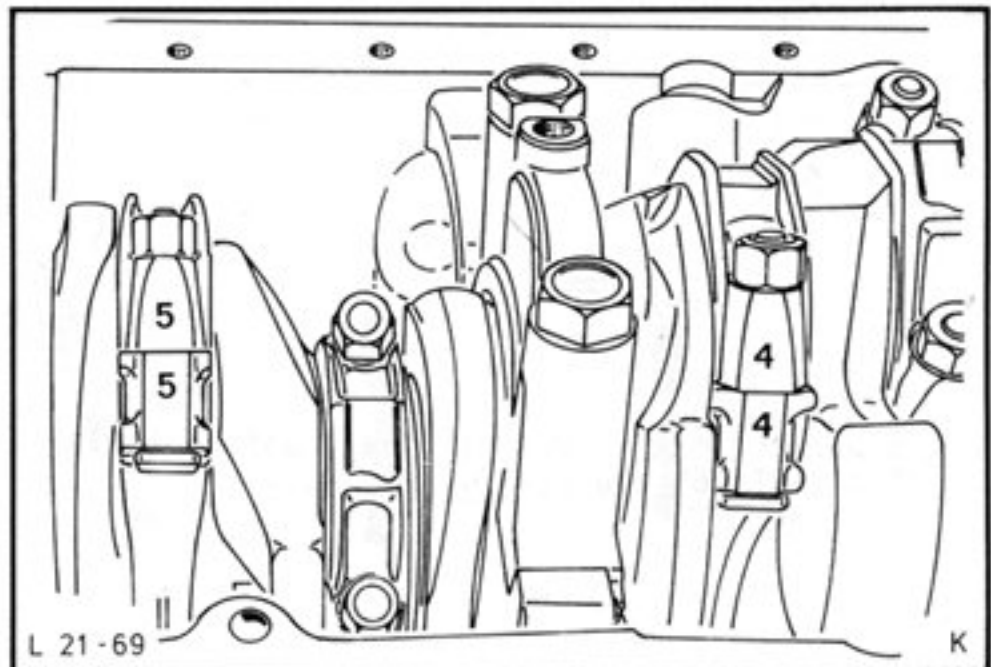

Fig.38. Big end cap markings.
26. Check markings of big end and main bearing caps for subsequent reassembly, Fig.38.